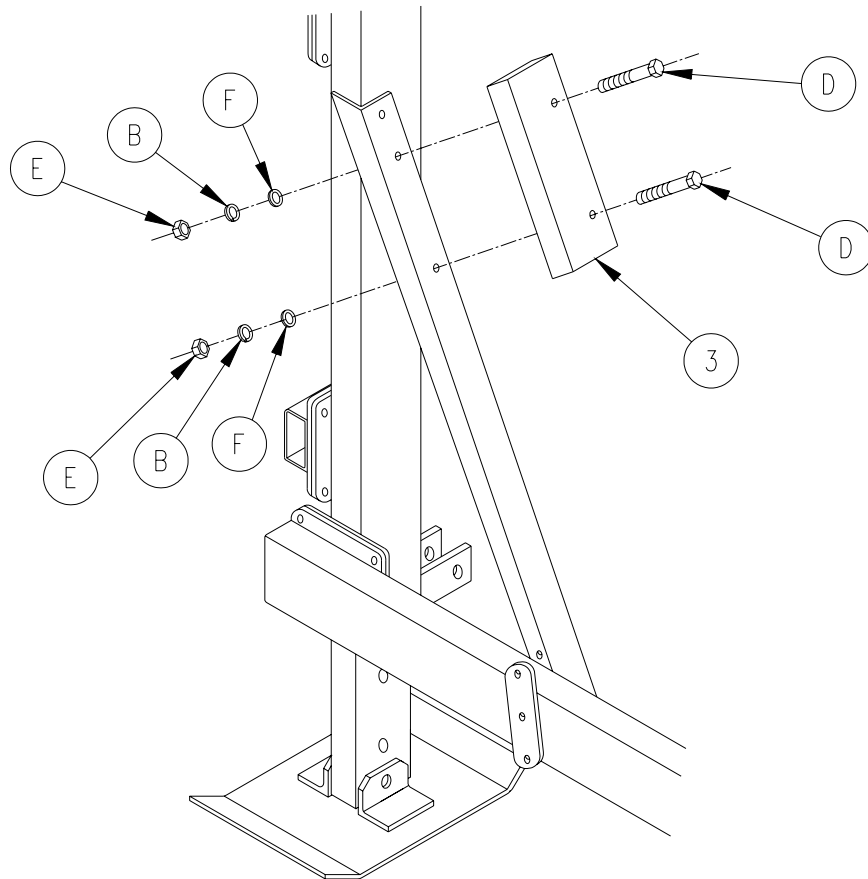

Figure 2-5.
1. **Refer to Figure 2-5.** Insert two carriage bolts (D), through the counter bored holes in the lower bumper (3). Using existing holes, near the top of the lower diagonal bracket, position lower bumper (3), so that it is offset to the outside (front and rear), of the lift to allow for proper clearance of lifting carriage. Use two each: flat washer (F), lock washer (B), and hex nut (E), to fasten carpeted lower bumper to the lift.